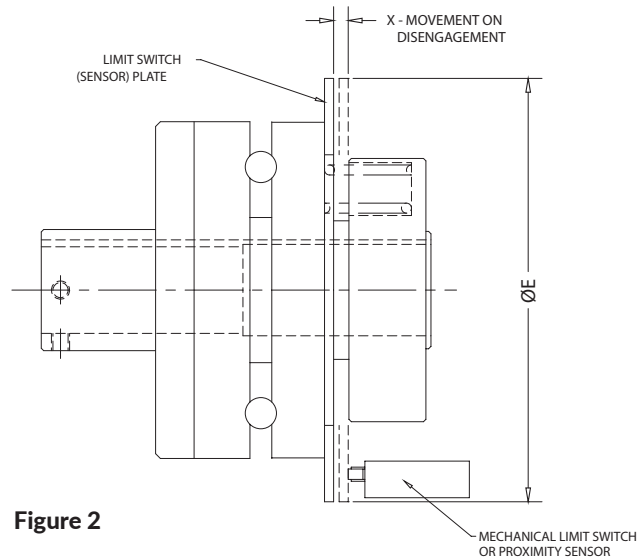

Figure 2
① See Figure 2 and Table 3 on page 14 for dimensions and movement on disengagement
① See Figure 2 and Table 3 on page 14 for dimensions and movement on disengagement.
The Autogard 400 Series is designed to run freely upon disengagement. However, it is still critical to shut down the drive immediately when disengagement occurs to avoid premature wear of the torque limiter. The recommended method of shutting down the drive is through the use of a customer supplied mechanical limit switch or proximity sensor shown in **Figure 2** using the dimensions in **Table 3**. However, it is preferable to use the slide plate movement on disengagement to operate a limit switch, which switches off the main drive and/or sounds an alarm.
Figure 2 and **Table 3** give details of the limit switch plate and the movement on disengagement.